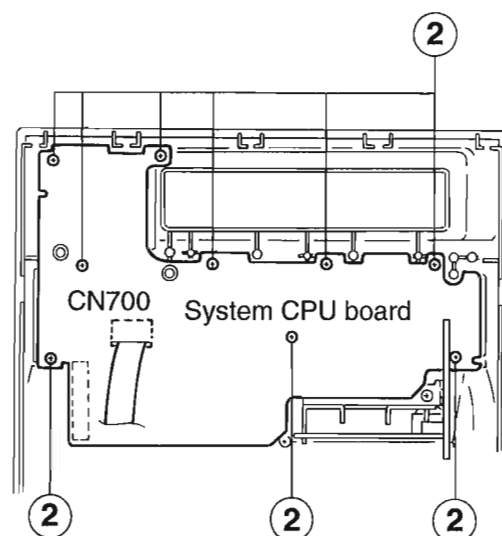

Fig. 3-21
8. Remove the nine screws ② fastening the system CPU board . (See Fig. 3-21)
10. Remove the two screws ③ fastening the headphone & Mic jack board assembly inside the front panel. (See Fig. 3-21)